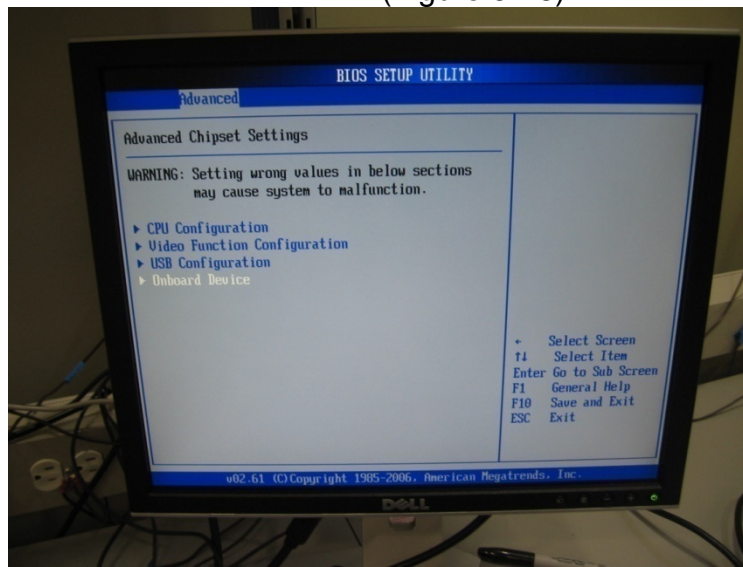
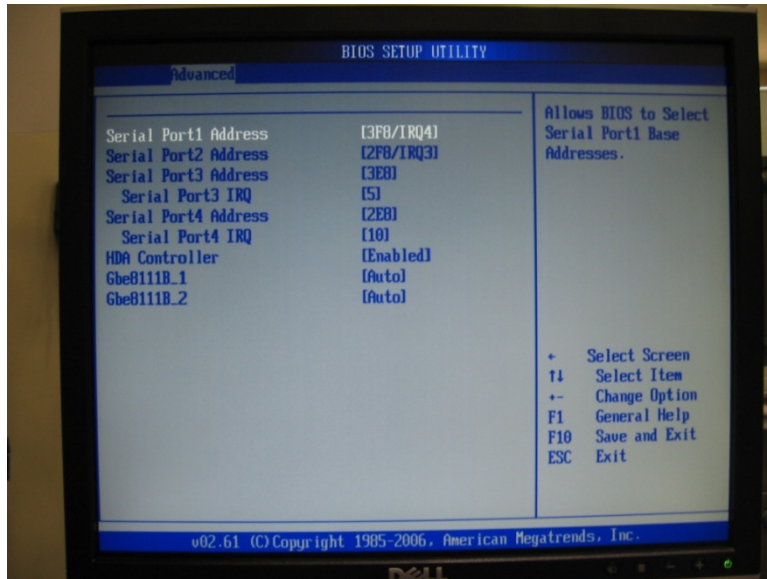

Figure 7-27 Onboard Devices Screen.
Figure 7-28 Default Onboard Devices Settings Screen.
17. On the **Advanced** options screen, scroll down and select **Onboard Devices** screen. Press **Enter**. (Figure 7-27 and Figure 7-28 show the various default settings. Leave on Default then press **Escape** to return back to the **Advanced** settings Screen Press **Enter** (Figure 9-28).
1. Default **Onboard Devices Settings** (Figure 7-28). Then press **Escape** to return to **Advanced** options screen.